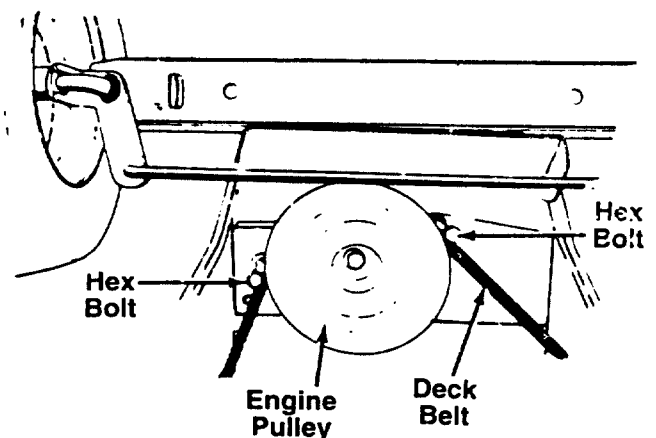

FIGURE 17.
NOTE: Figures 17, 20 and 21 are shown with the unit tipped up for clarity. It is not necessary to tip the unit to remove the belts.
2. Remove the two hex bolts (belt keepers) from the engine pulley belt guard. See figure 17.
NOTE: Make certain hex bolts are reassembled as shown in figure 17.